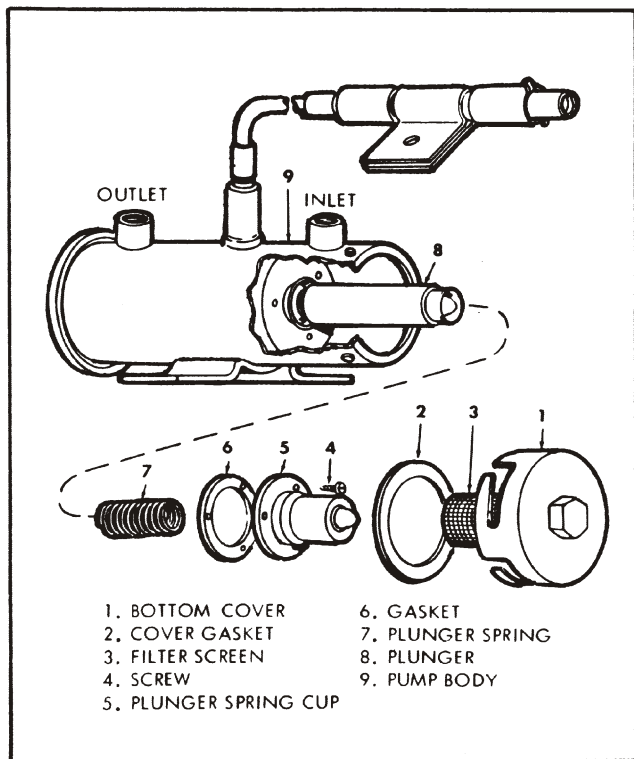

FIGURE 4-1 Exploded View of Electric Fuel Pump
(See Figure 4-1)
4.5 Cleaning Fuel Pump Parts (See Figure 4-1)
- d. Rinse remaining parts in the solvent and dry with compressed air. Exercise care when drying the screen (3), to prevent damage.
4.8 Inspection of Fuel Pump Parts (See Figure 4-1)